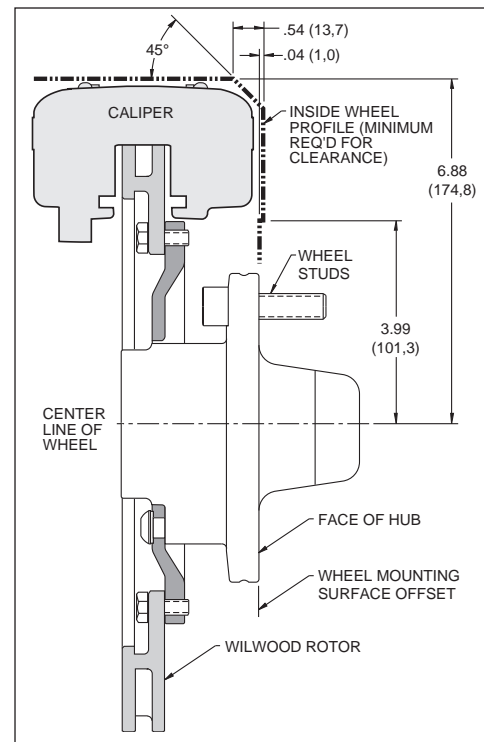

Figure 2. Wheel Clearance Diagram
- Review the wheel clearance diagram (figure 2, page 3) to verify that there is adequate clearance with the wheels you will be using with the installation.
- Verify your wheelclearance using Figure 2.